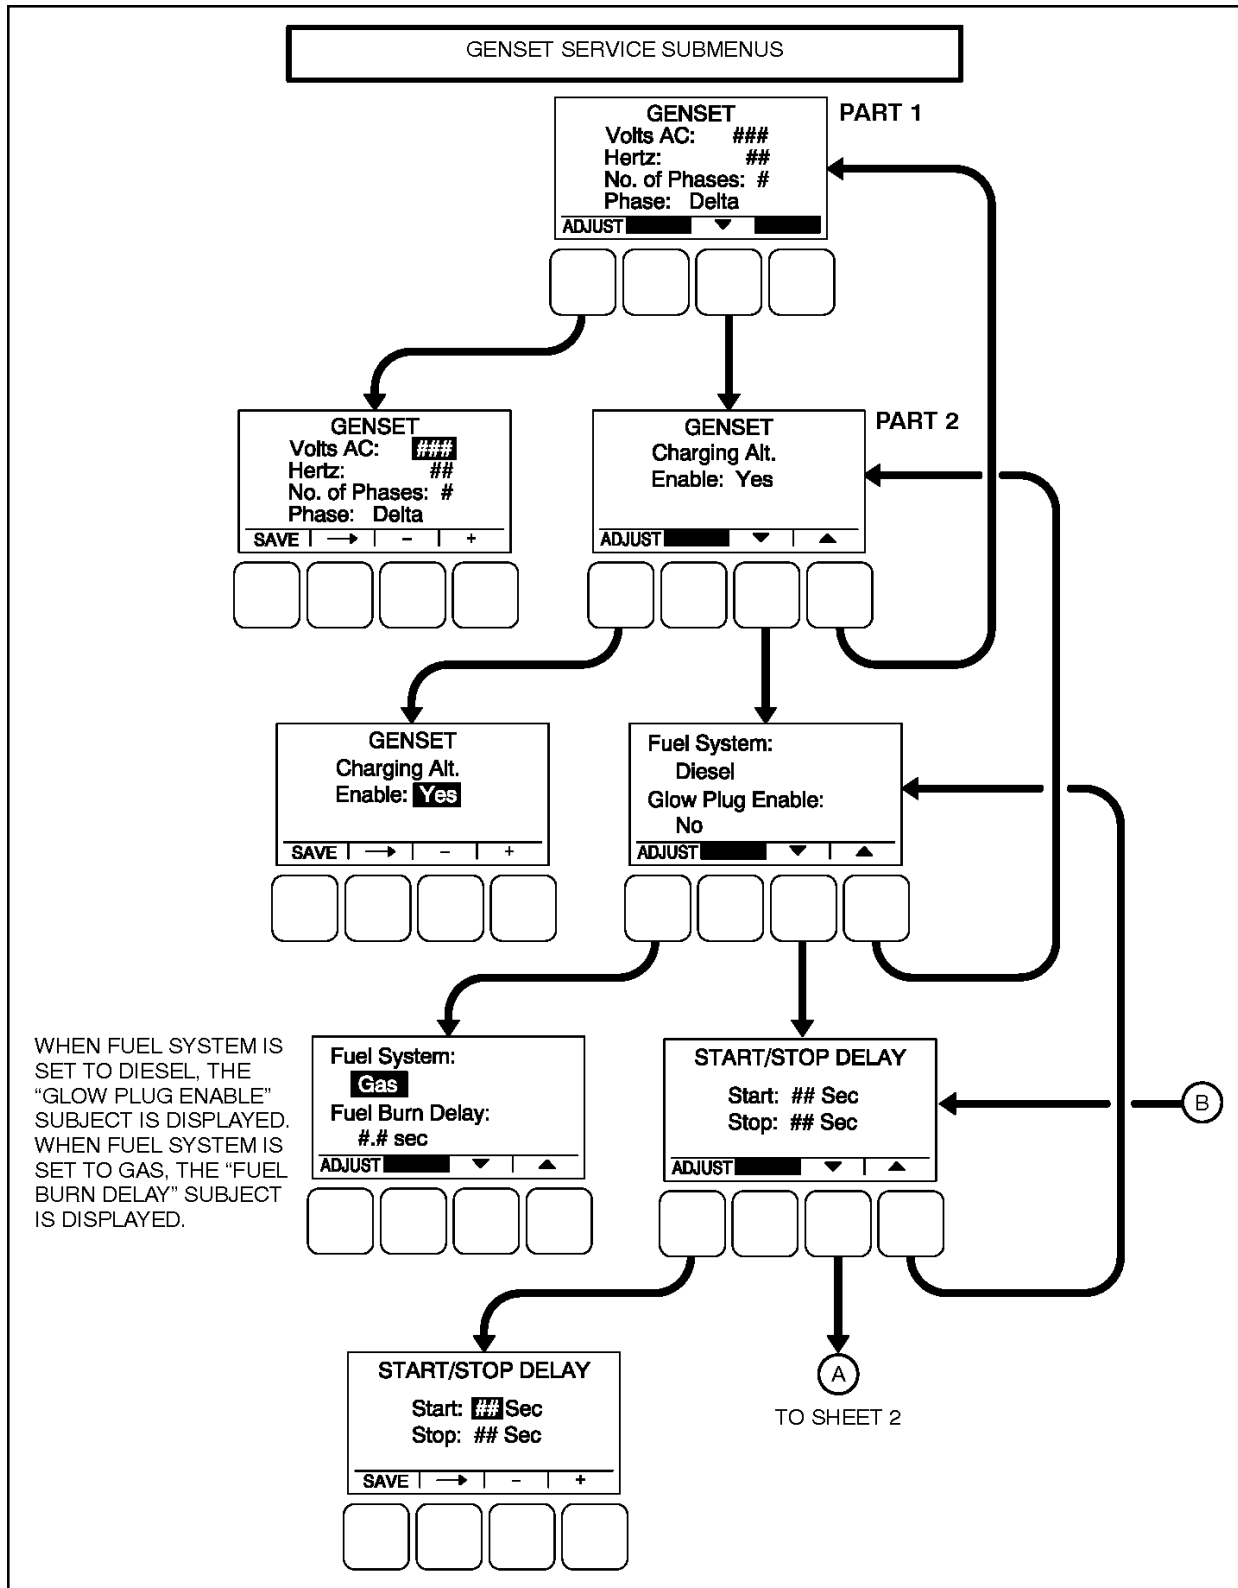

FIGURE 53. GENSET SERVICE - GENSET, FUEL SYSTEM, AND START/STOP DELAY SUBMENUS
- Genset, Part 1 (Figure 53 on page 98)
- Genset, Part 2 (Figure 53 on page 98)
- Fuel System (Figure 53 on page 98)
- Start/Stop Time Delays (Figure 53 on page 98)
The second genset menu (Figure 53 on page 98) allows for enabling or disabling charging alternators.
The Fuel System menu (Figure 53 on page 98) allows for selecting fuel type and, depending on the type selected, enabling/disabling glow plugs or setting a fuel burn time delay.
The time delay after receiving a valid start signal, until the generator set starts, can be adjusted (Figure 53 on page 98). The time delay that the generator set is allowed to run at rated speed after receiving a stop signal, until the generator set stops, can also be adjusted. These time delays do not apply to manual start/runs.